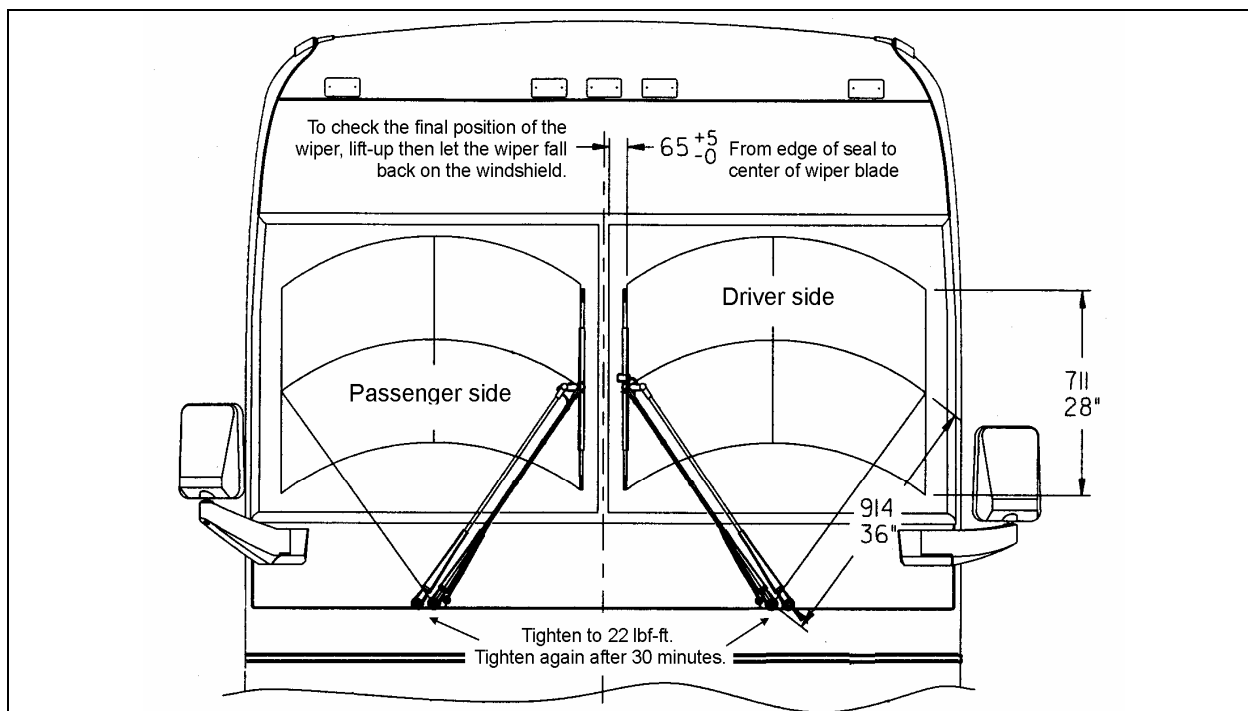

FIGURE 41: WIPER ARMS POSITIONING
1. Reinstall the wiper arms and position as shown in figure 41. Before positioning the wipers at their final position, tighten the nuts to 9 Ft-lbs (12 Nm) at first.